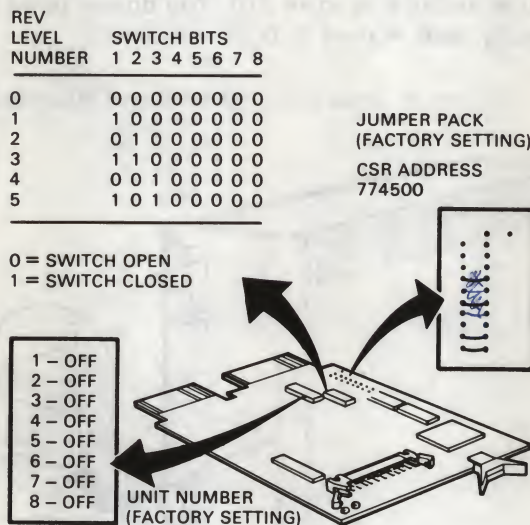

Figure 1-8 M7546 Jumpers and Switches
- Make sure the address jumpers are set as shown (Figure 1-8).